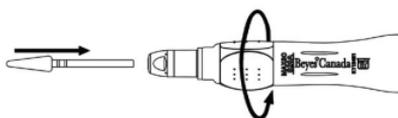

Fig.2
1. Open collet by turning grip 1/4 turn (clockwise) as shown in Fig. 2. You will feel a “click” indicating the collet is open. The gap between the grip and handpiece retainer will narrow when the collet is open.